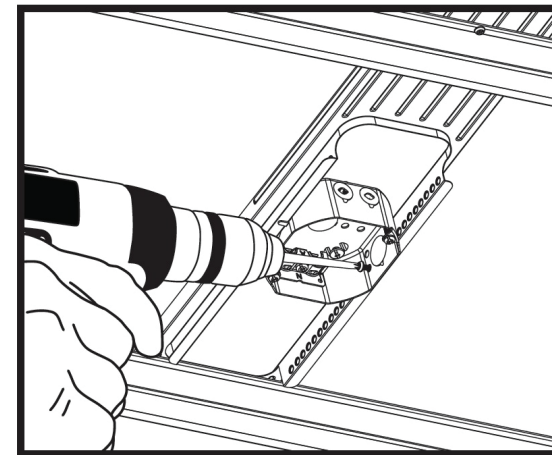

Figure 5
7. Attach the box to the support by using 4 steel framing screws, 2 on each side. (Figure 5).